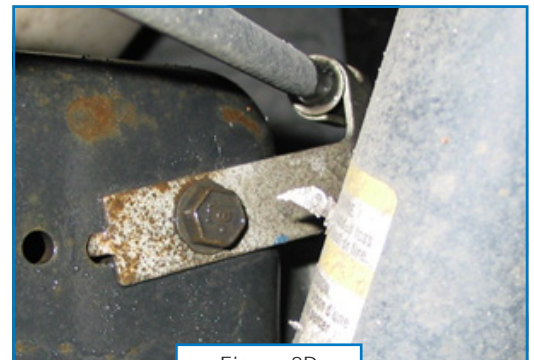

Figure 2D
- 10 Remove the hex cap screw (**Figure 2D**) retaining the emergency brake cable to the jounce bumper stop on the passenger side of the vehicle. Discard the screw.